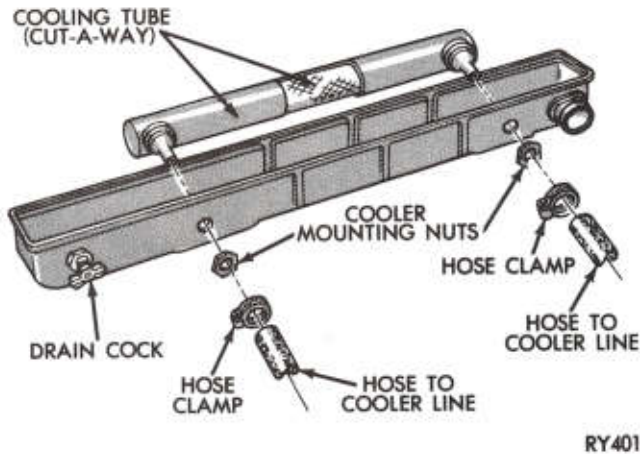

Fig. 14—Transmission Oil Cooler Tube, Radiator Lower Tank
(1) Disconnect both oil cooler lines at lower tank. (Fig. 14).
(2) Connect a pressure gauge to one cooler connection and a shut off valve to the other. Close the valve.